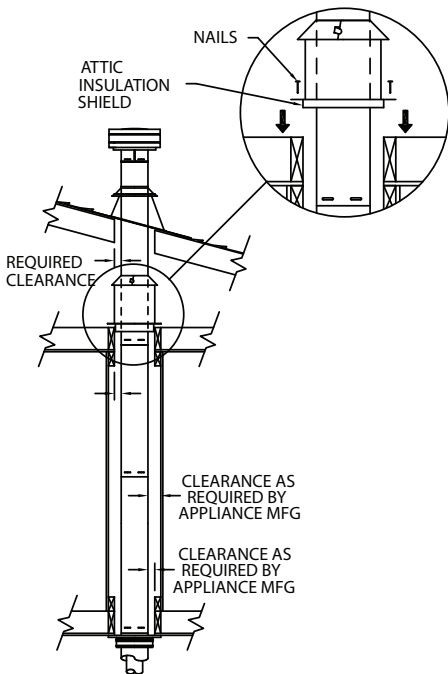

Figure 19
- (1) For multi-story vertical installations, a Ceiling Firestop is required at the second floor, and any subsequent floors (**Fig. 19**). Refer to **Table 1, page 8**. Cut and frame a square opening for installation of the Ceiling Firestop.
- (2) If Vent passes through any occupied areas above the first floor, including closets and storage spaces, it must be enclosed. The enclosure may be framed and sheetrocked with standard construction materials, but required clearances to combustibles must be maintained. Consult the appliance manufacturer's installation instructions for the minimum allowable clearance between the outside of the vent pipe, and the combustible surfaces of the enclosure. Do not fill required air spaces with insulation.
- (3) If venting system passes through an attic space the Attic Insulation Shield or a chase enclosure must be installed to prevent contact between
Pipe Sections and the insulation or other debris. For the Attic Insulation Shield, nail the base to floor of attic and adjust shield for appropriate insulation level, then attach the collar at the top of assembly (*Fig. 19*). For a chase enclosure, it may be constructed out of sheetrock or similar building materials and framed around the support box or the pipe, maintaining the clearance to combustibles as required by the appliance manufacturer. For vaulted ceilings a chase enclosure must be constructed as the Attic Insulation Shield can not be installed.